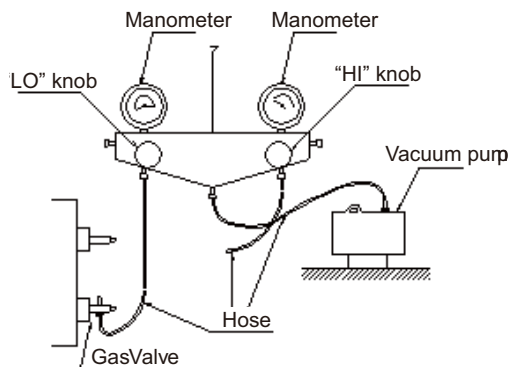

Fig.8
3) As shown in the following figure (Fig.8), expel the gas inside the indoor unit and refrigerant pipe out by the vacuum pump.(2 purposes of outdoor unit's main valve:1.vacuum pumping 2.Control the on /off of outdoor unit refrigerant)